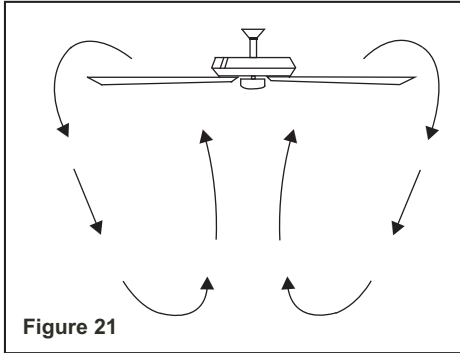

Figure 21
**Cool weather** - (Clockwise direction) An upward airflow moves warm air off the ceiling area. (Fig. 21) This allows you to set your heating unit on a lower setting without affecting your comfort.